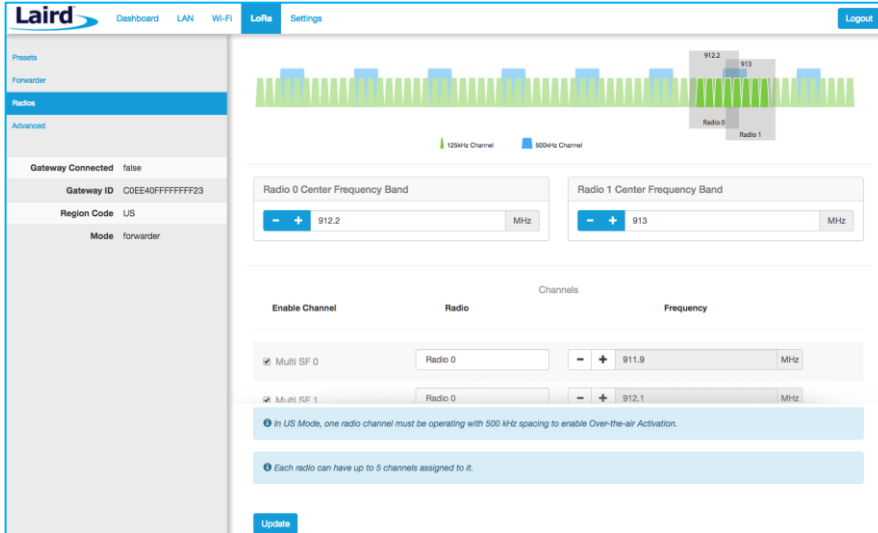

Figure 31: US region gateways
8.4.3.4 Gateways that operate in the US region should have a 500-kHz channel. In Figure 31, the allowed placement of these channels displays larger and blue.